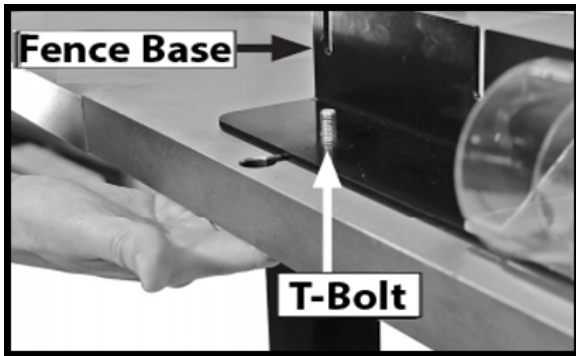

Figure 24
12. Align the two holes in the fence base with the slots in the table and insert (2) 5/16-18 T-Bolts through the table and fence base, as in (Fig.24). The T-Bolts must sit flush in the T-Slots beneath the table.